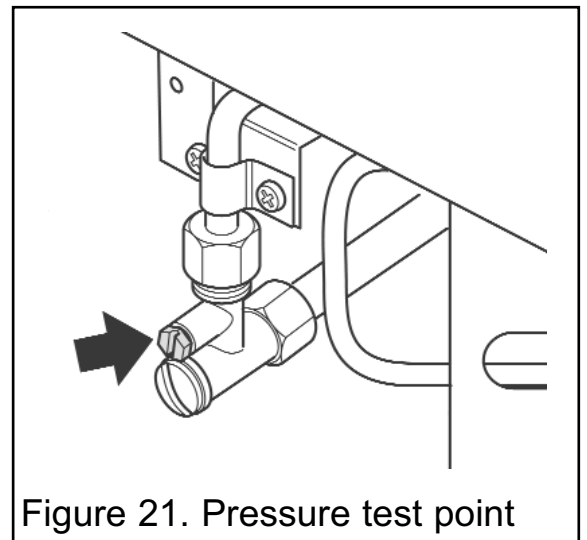

Figure 21. Pressure test point
1. Check the inlet pressure by fitting a pressure gauge at the test point. The test point is on the inlet elbow (See figure 21). Check the pressure with the appliance alight and set at maximum output.